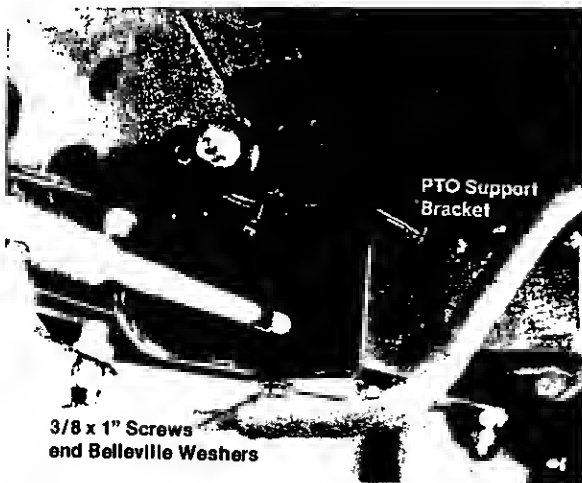

FIGURE 20.
2. Line up the holes on the bottom of the PTO support bracket with the holes in the tractor frame and attach with two 3/8 x 1" screws and belleville washers. See figure 20.
6. Screw the two halves of the center arm together and attach one end to any hole in the center mounting bracket with a clevis pin and a cotter hairpin. See figure 20.